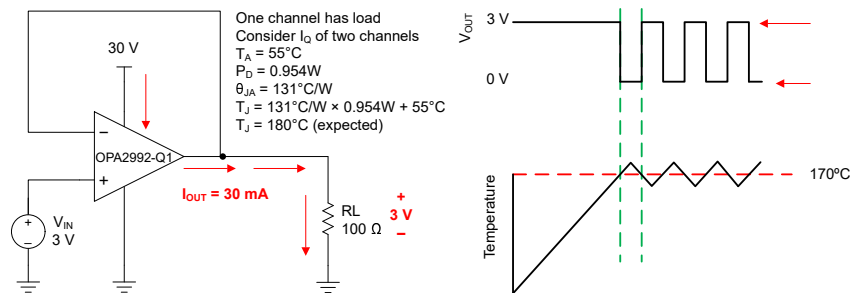

Figure 6-4. Thermal Protection
The internal power dissipation of any amplifier causes the internal (junction) temperature to rise. This phenomenon is called *self heating*. The absolute maximum junction temperature of the OPAX992-Q1 is 150°C. Exceeding this temperature causes damage to the device. The OPAX992-Q1 has a thermal protection feature that reduces damage from self heating. The protection works by monitoring the temperature of the device and turning off the op amp output drive for temperatures above 170°C. Figure 6-4 shows an application example for the OPA2992-Q1 that has significant self heating because of the power dissipation (0.954W). In this example, both channels have a quiescent power dissipation while one of the channels has a significant load. Thermal calculations indicate that for an ambient temperature of 55°C, the device junction temperature reaches 180°C. The actual device, however, turns off the output drive to recover towards a safe junction temperature. Figure 6-4 shows how the circuit behaves during thermal protection. During normal operation, the device acts as a buffer so the output is 3V. When self heating causes the device junction temperature to increase above the internal limit, the thermal protection forces the output to a high-impedance state and the output is pulled to ground through resistor R_L . If the condition that caused excessive power dissipation is not removed, then the amplifier oscillates between a shutdown and enabled state until the output fault is corrected. Please note that thermal performance can vary greatly depending on the package selected and the PCB layout design. This example uses the thermal performance of the SOIC (8) package.